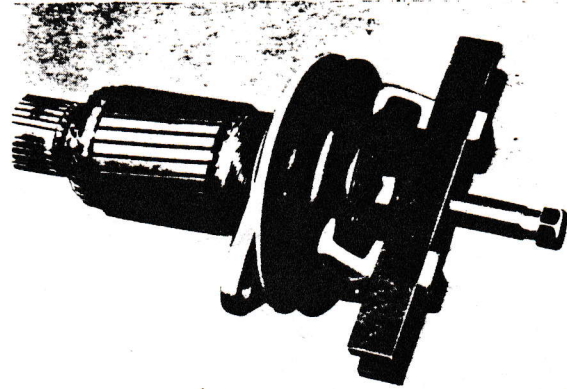

Fig. 20. Removing the belt pulley
6. Place the rotor in a vice but do not tighten too hard (use copper jaws). Unscrew the nuts for the belt pulley and pull this off. Use a suitable tool as shown in Fig. 20. Remove the Woodruff key.